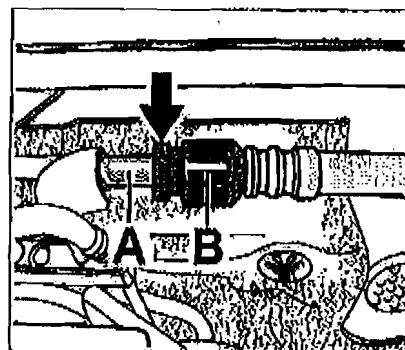

Figure 3
- 4.1 Place several cloths underneath the connection point at the plenum panel ⇒ Figure 3 to absorb the fuel that emerges when you open the fuel line.
The markings at the connection point ⇒ Figure 3 -A- and on the hexagon on the fuel line ⇒ Figure 3 -B- are required for positioning the fuel line correctly at the connection point and must not be removed.
- 4.2 Counter at the hexagon on the fuel line and relieve the fuel pressure at the connection point at the plenum panel ⇒ Figure 3 -arrow- by slowly opening the threaded joint on the fuel line. Absorb emerging fuel.